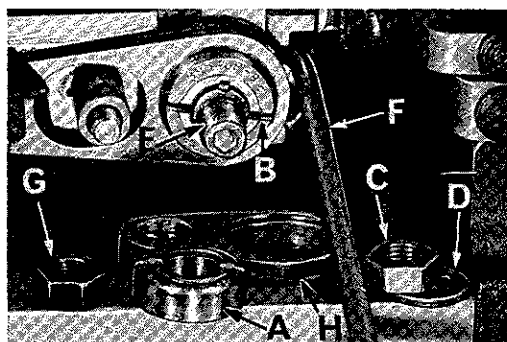

Fig. 15
If eccentrics are unusually tight fitting, in addition to removing nut (C) and washer (D) (Fig. 15) from shaft (E), it may be helpful to remove nut (G) and feed driving connection (H). Then continue as originally suggested.